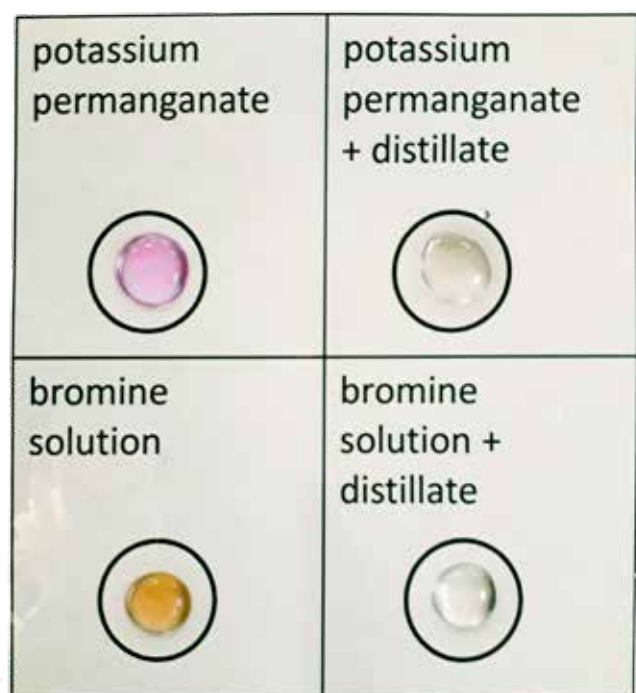

Figure 6: The essential oils decolourise potassium permanganate and bromine solutions, indicating the presence of unsaturated carbon-carbon bonds
1. Using a dropping pipette, add one drop of potassium permanganate solution to two separate wells of a spotting tile. Alternatively, you can use a laminated worksheet with pre-labelled circles, which is available to print from the *Science in School* websitew1 (figure 6). If using the worksheet, add the drops of solution to the two circles labelled 'potassium permanganate'.